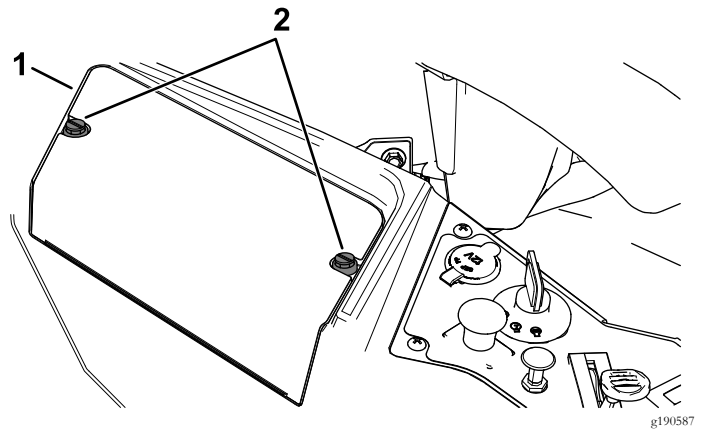

Figure 52
3. Loosen the 2 fasteners on the battery cover counterclockwise 1/4 turn, and remove the battery cover (Figure 52).
6. Install the battery cover by pushing down and tightening the 2 fasteners clockwise (Figure 52).